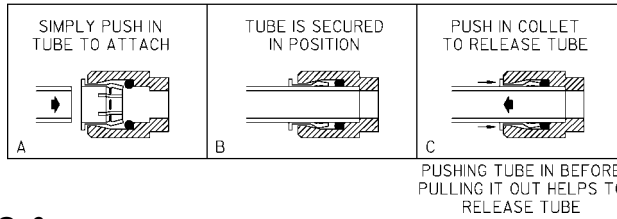

FIG. 6
7. **Connect refrigeration package to supply line** with a shut off valve and install a 3/8" unplated copper water line between the valve and the cooler. Remove burrs from outside of water line. Insert water line straight into fittings until they reach a positive stop, approximately 3/4" (19mm). (See Fig. 6 and 7) **DO NOT SOLDER TUBES INSERTED INTO THE STRAINER AS DAMAGE TO THE O-RINGS MAY RESULT.**
15. **Replace access panel and install grill** using (2) #8 x 1.00" (25mm) pan head screws and (2) small clips provided.